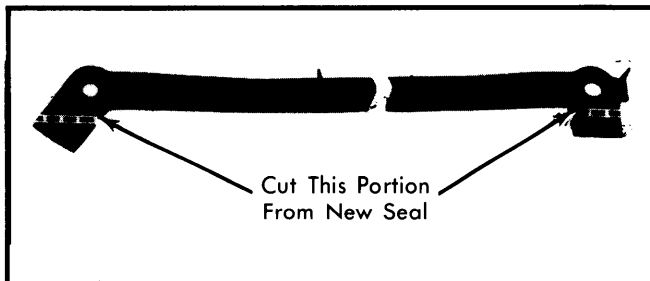

Fig. 6 Oil Pan Front Seal Modification
**Installation** – 1) Clean mating surfaces of engine block and front cover. Cut tabs off new oil pan front seal. See Fig. 6. Install seal on front cover, pressing tips into holes provided in cover. Apply silicone sealer (or equivalent) to joint at oil pan and engine block.